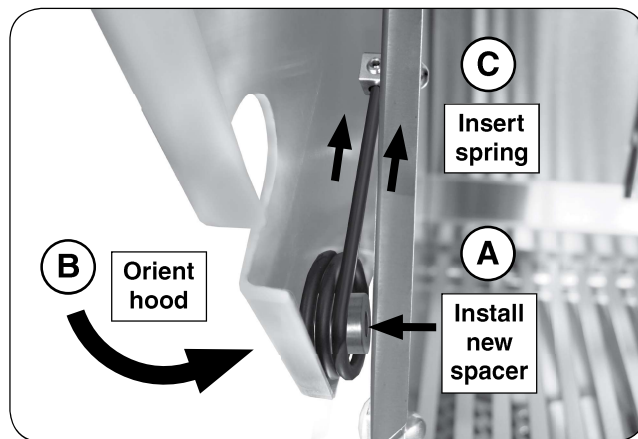

Fig. 3-3 Install hood
8. Ensure the spacers are attached to both sides of the hood cutouts (Fig. 3-3, A), and (using two installers) carefully orient the hood back onto the grill (Fig. 3-3, B). While situating the hood, carefully insert the new spring into the spring mount and secure with an Allen wrench (Fig. 3-3, C).